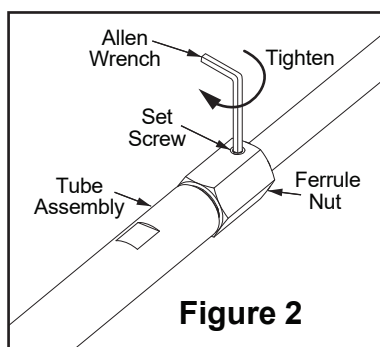

Figure 2
- b. After the Ferrule Nut has been tightened, you MUST tighten the Set Screw to a minimum of 17 in-lbf. (See Figure 2)
- After the Ferrule Nut has been tightened, you MUST tighten the Set Screw to a minimum of 17 in-lbf. (Figure 2)